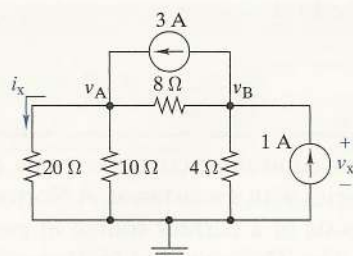

FIGURE P3-2
- 3-2 (a) Formulate node-voltage equations for the circuit in Figure P3-2.